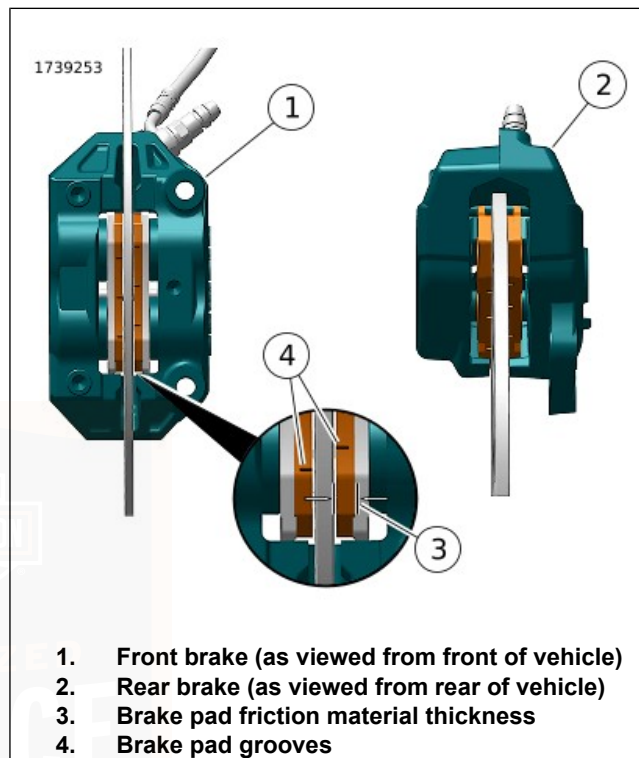

Figure 102. Brake Pad Friction Material
1. See Figure 102. Check the brake disc as it spins. The disc should run true in the brake caliper.